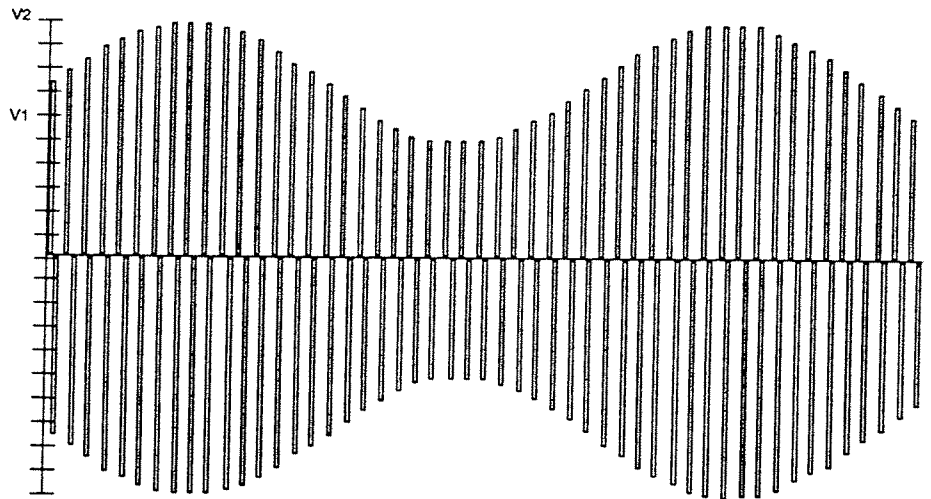

Figure 2.7 — Modulated Controller Output
3. Attach your external source to the EXT IN BNC connector on the 932-CX front panel. Switch the power switch to the ON position. Adjust the VOLTAGE knob until the panel reading equals $V1+(V2-V1)/2$. Figure 2.7 shows the 932-CX output waveform to the liquid crystal head under the influence of the externally applied voltage.